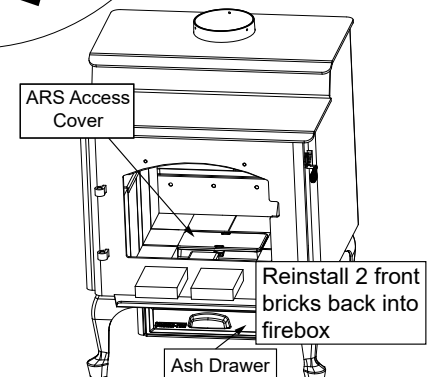

Figure 24.4
1. Replace 2 front bricks that were removed (**Figure 24.4**).
3. Install ARS access cover inside of ARS Channel that is located inside the firebox (**Figure 24.4**).